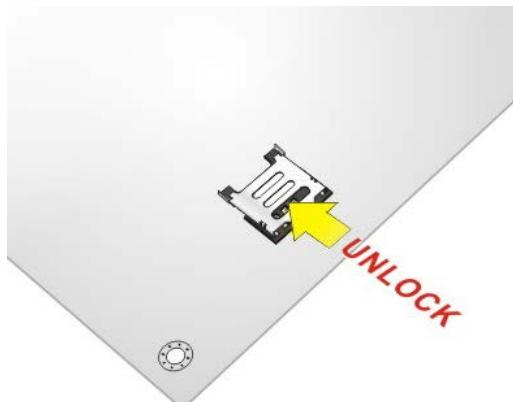

Figure 3-6: Unlock SIM Card Slot Cover
Step 2: Unlock the SIM card slot cover by sliding the cover in the direction as shown by the arrow in **Figure 3-6**.